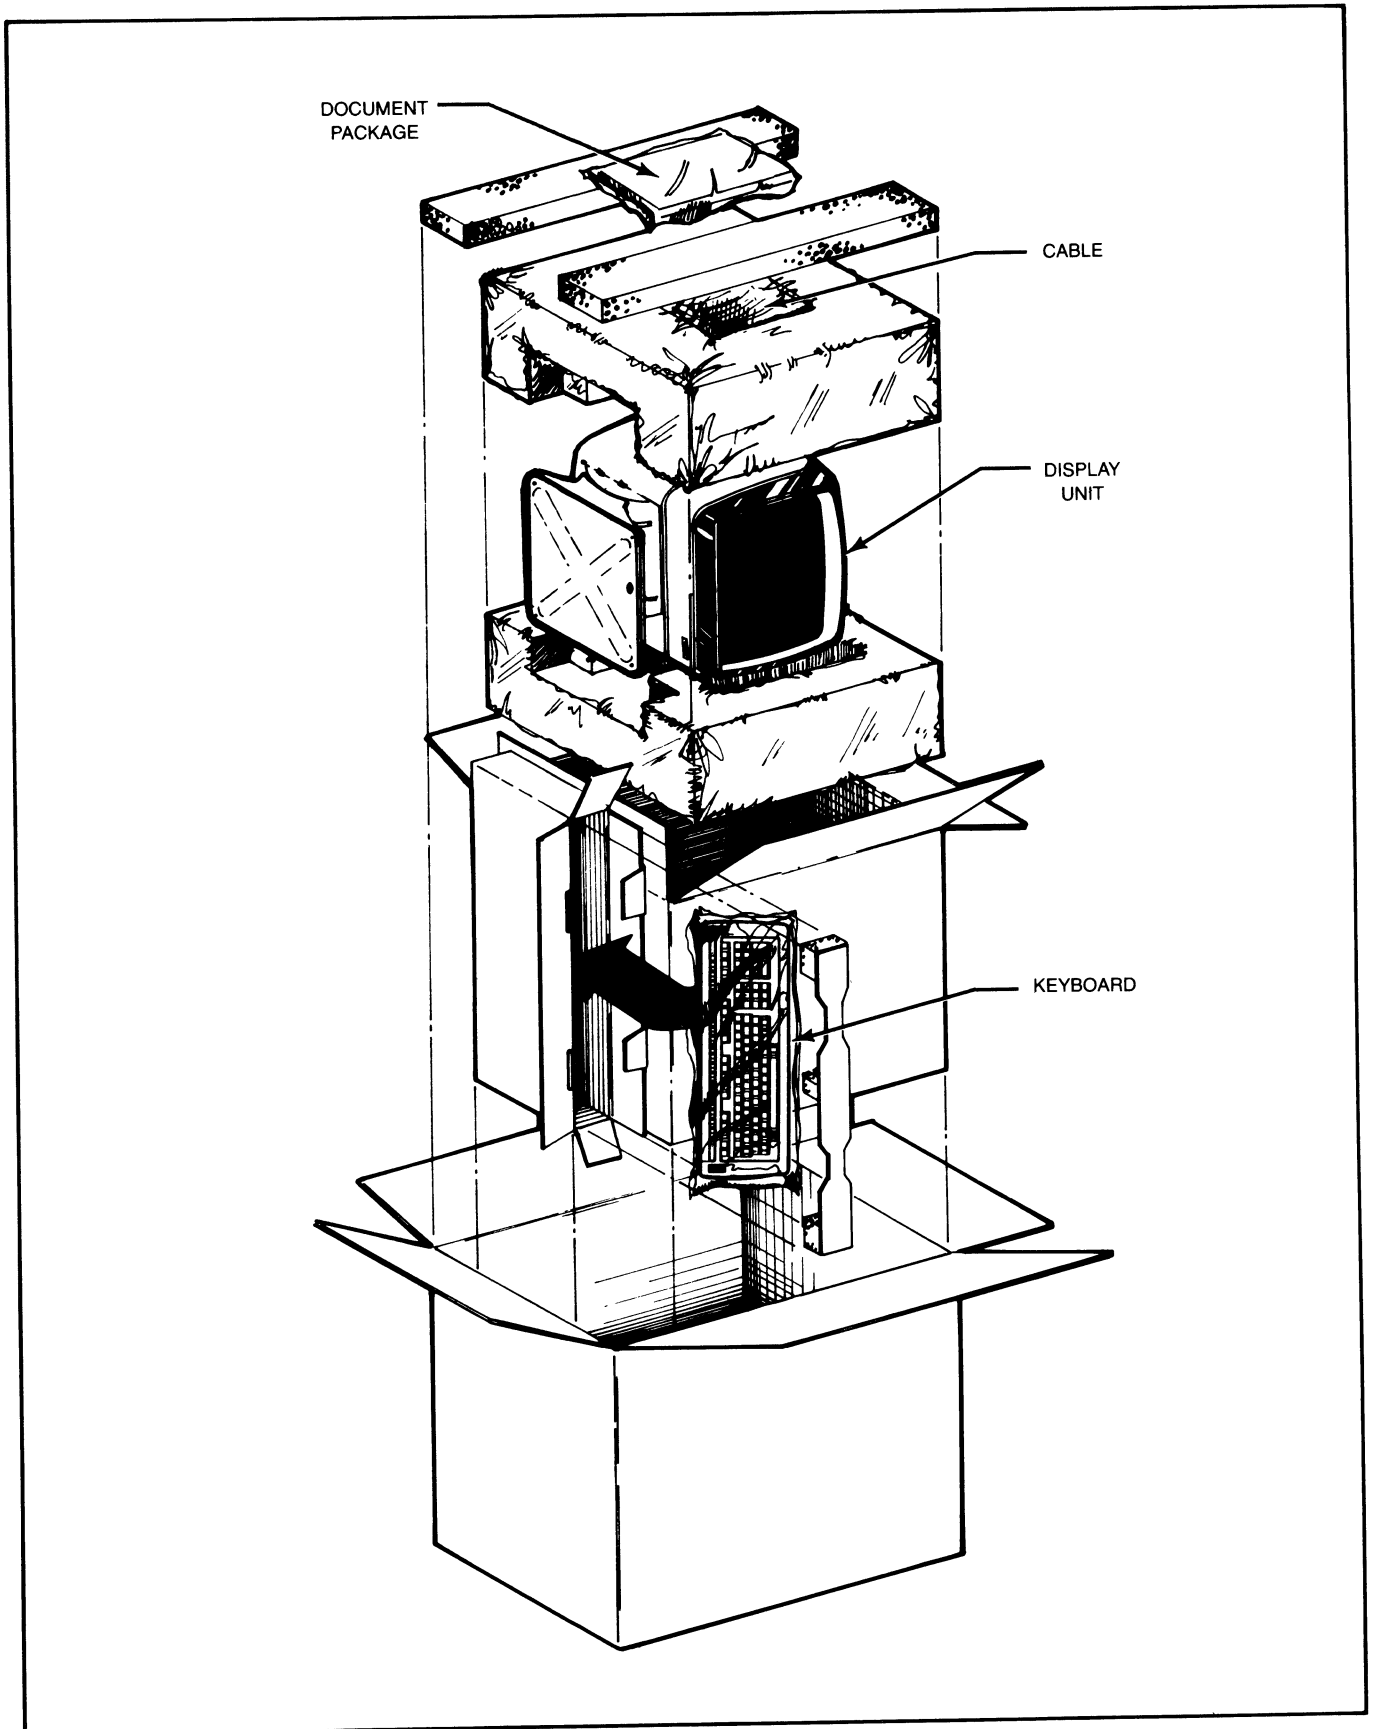

Figure 4-2. Display Unit and Keyboard Packing/Unpacking
The D210/211 terminal display unit and keyboard are packed as shown in Figure 4-2. Perform the following steps to unpack and inventory the terminal equipment:
3. Using Figure 4-2 as a guide, unpack the display unit, keyboard, communications cables, and documentation.
**NOTE:** *Save the packing material in case reshipment of the terminal becomes necessary. Otherwise, Figure 4-2 must be used as a guide in replacing packing material for shipping purposes.*